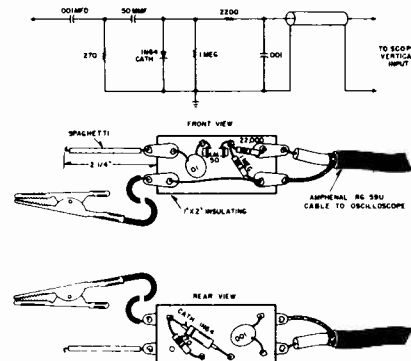

Fig. 619A. Detector Circuit
Detector Circuit _____ Shown in Fig. 619A.
6. Disconnect the sweep and marker generators from point (A) and reconnect to point (D) (V-101 grid pin 1).
7. Connect the hot lead for the vertical amplifier in the oscilloscope to point (E) (V-102 grid pin 1) through the detector circuit shown in Fig. 619A.